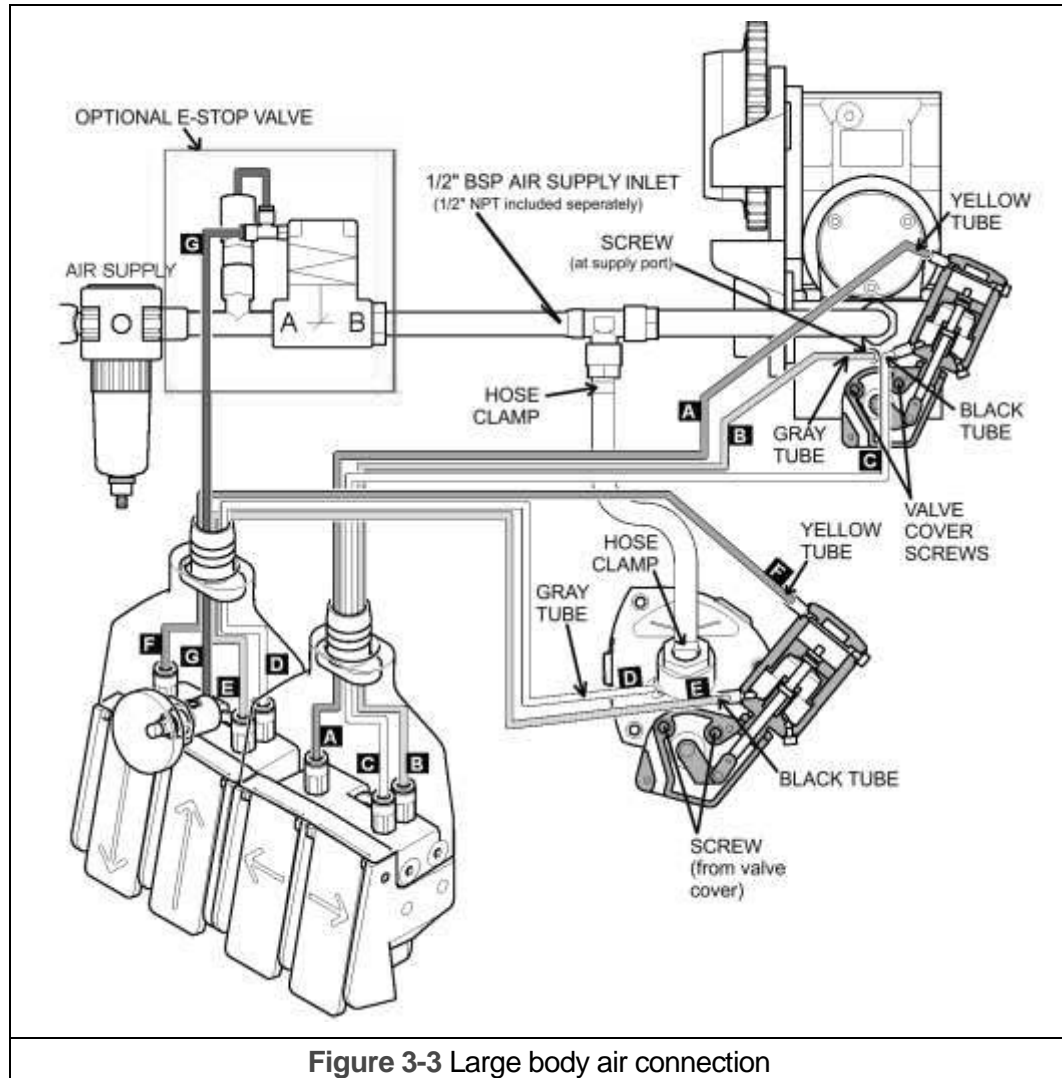

Figure 3-3 Large body air connection
- 1) Refer to Figure 3-2 and Figure 3-3.
### 3.5.6 Large Body Pendant Connection (2 - 5 ton) – Refer to Figure 3-3.